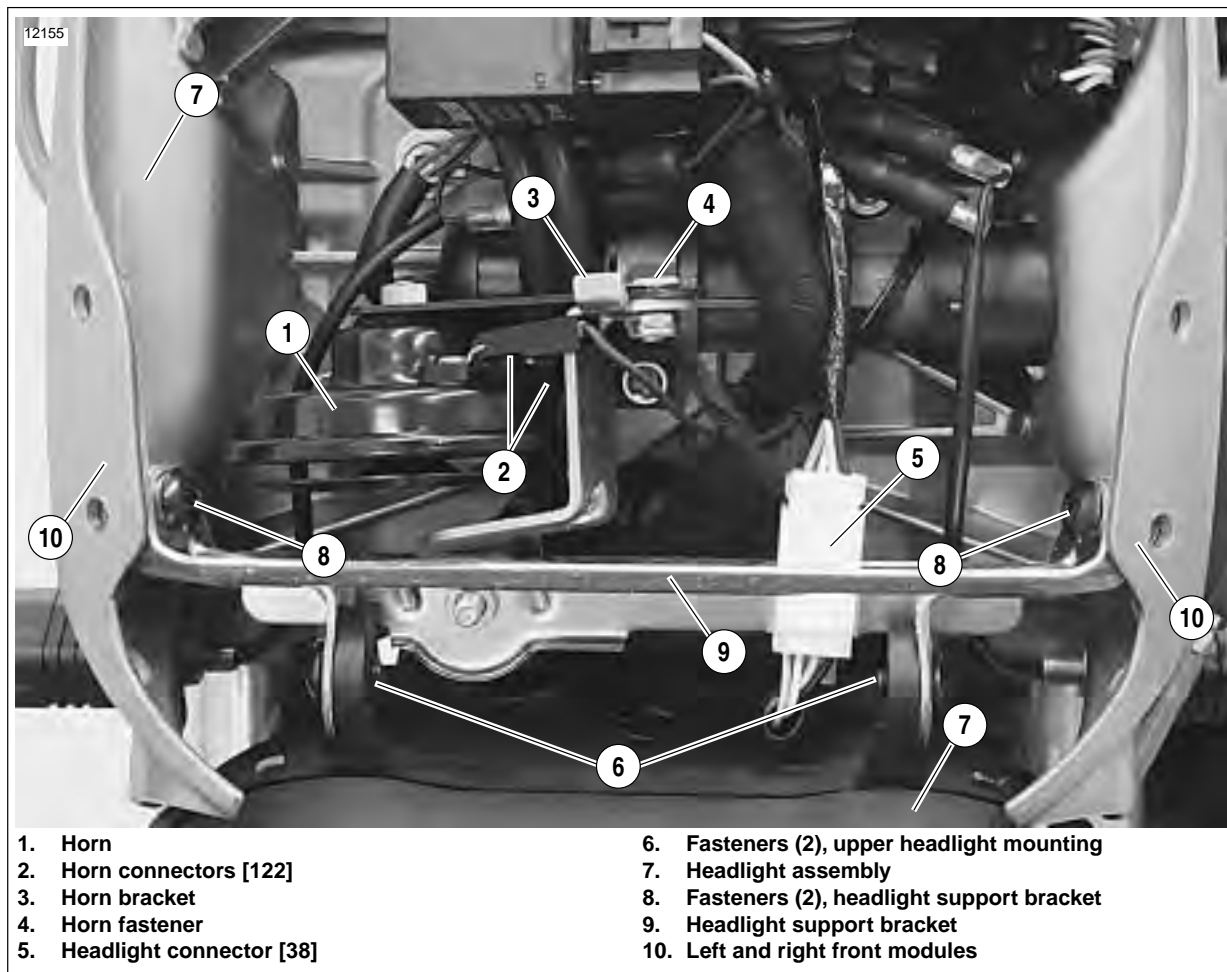

Figure 2-107. Electrical Connectors Behind Windscreen
4. See Figure 2-107. Disconnect horn connectors [122] (11) and remove horn fastener (4) and horn (1).